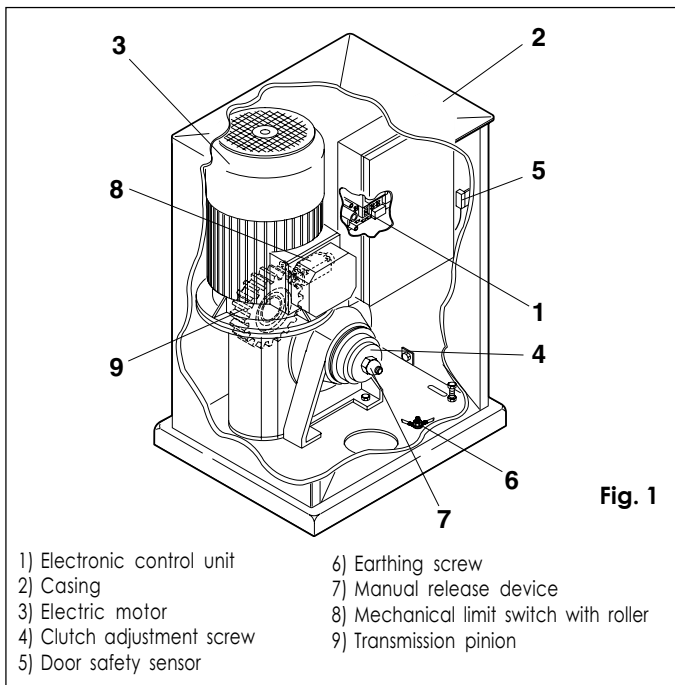
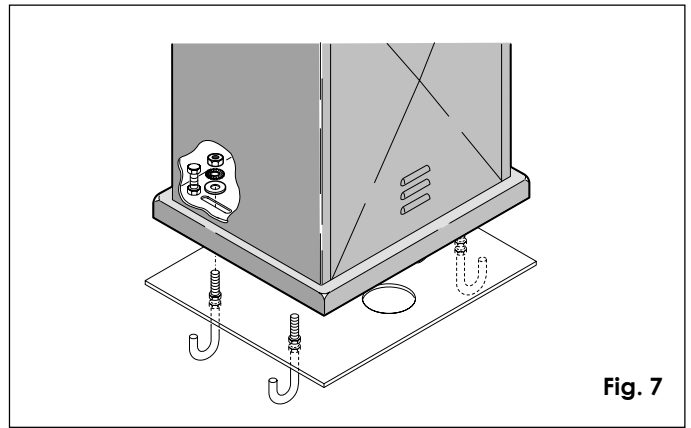

Fig. 1
Fig. 7
- 1) Remove the casing (2, fig. 1) and position the gear motor on the foundation plate. Fit, but do not tighten, the washer, the split washer and the nut as shown in fig. 7.